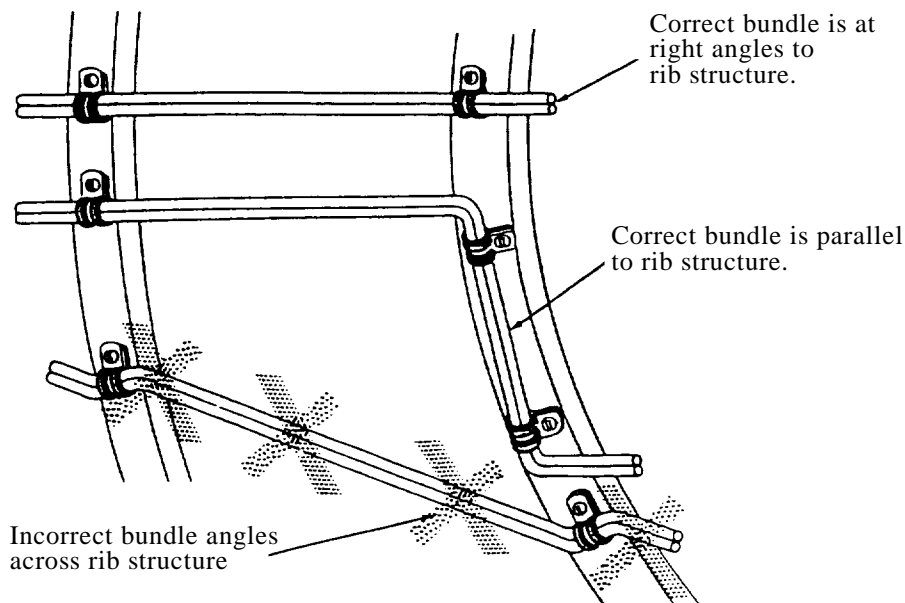

Figure 6. Routing Bundles
13. **GENERAL INSTALLATION INSTRUCTIONS.** Install wiring so that it is mechanically and electrically sound, and neat in appearance. Wherever practicable, route wires and bundles parallel with, or at right angles to, the stringers or ribs of the area involved (Figure 6).